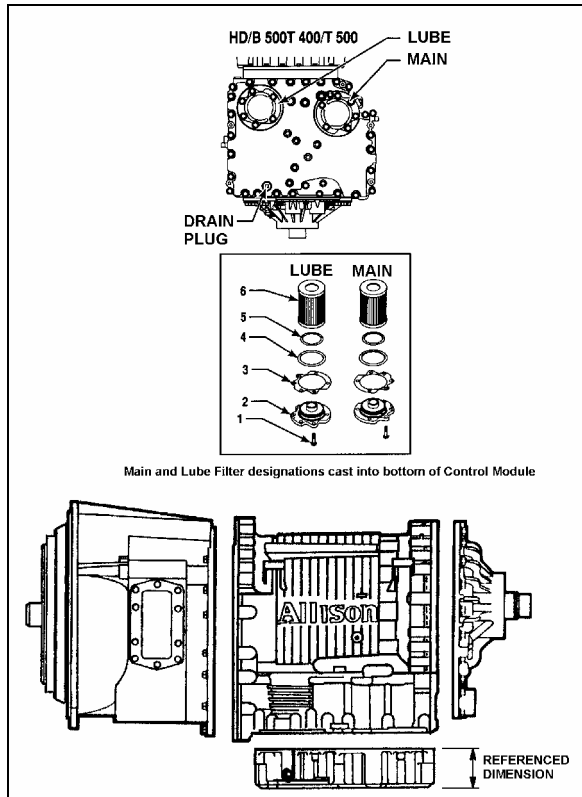

FIGURE 7: DRAIN PLUG AND FILTERS 07052
2. Remove the drain plug from under the transmission (Fig. 7) and allow the oil to drain into a suitable container. Check the condition of the oil as described previously.
3. To replace the integral filters, remove twelve bolts (6 on each cover), two filter covers, two O-rings, two square cut seals and the two filters from the bottom of the control module (Fig. 7).